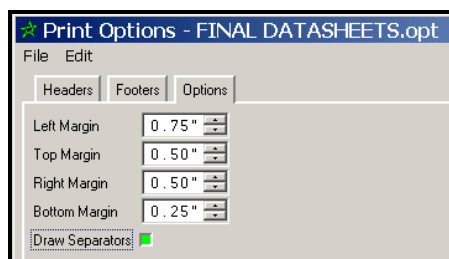

Figure 17-3. DBMS Print Options Dialog - Options Tab
STEP 10: The *Options* tab of the *Print Options* dialog should look like Figure 17-3. Click **OK**.